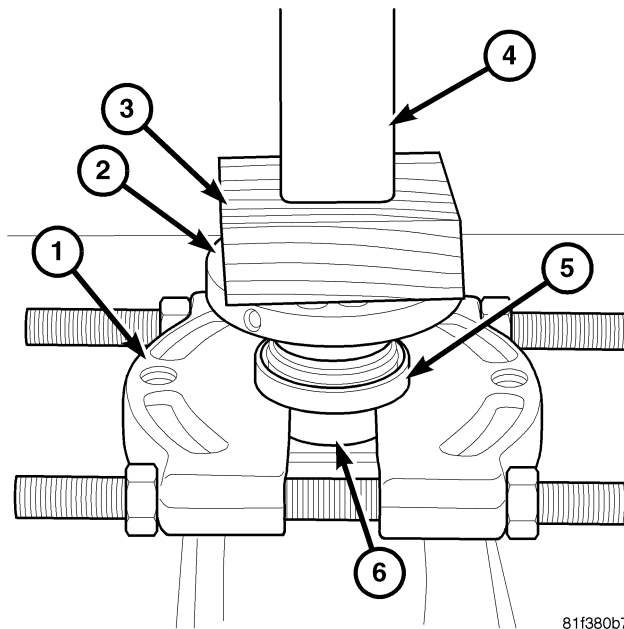

Fig. 6 PRESSING ON NEW FLANGE
5. Wrap the flange sealing surface with removable masking tape to protect the surface from nicks or burrs. DO NOT tape the outer diameter of the flange where the slinger will rest against (Fig. 6).